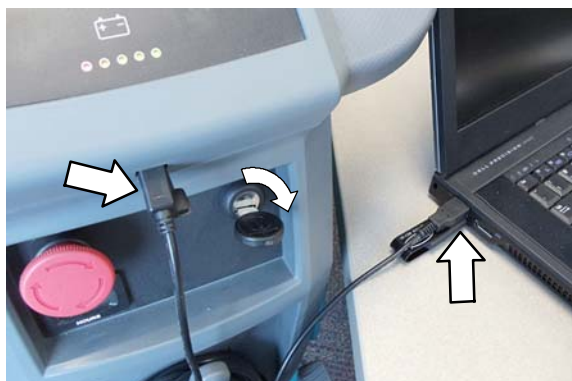

Fig. 20
3. Connect the USB cable [1071235] to computer and to the USB port on machine as shown. Turn the key switch to the on position (Figure 20).